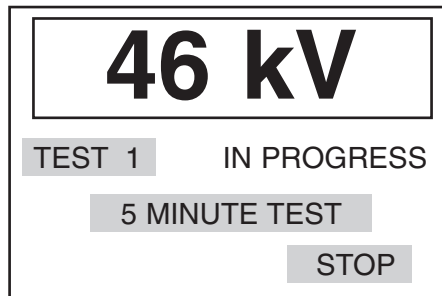

Figure 6 Example Voltage Screen
2. After the initial stand time is complete the high voltage test is switched on and applied to the oil sample. The screen display showing 'TEST 1' appears, similar to that shown in figure 6.
2. After the initial stand time is complete the high voltage is switched on and slowly applied to the oil sample. The screen display appears similar to that shown in figure 6.
2. After the initial stand time is complete the high voltage is switched on and applied to the oil sample. The screen display appears similar to that shown in figure 6. The sub-display shows the voltage applied to the oil sample; this voltage is rising at the rate of 3 kV/s. It continues until breakdown occurs (or up to maximum). The high voltage warning light is illuminated during this time. The number of the test in the sequence is shown and the words 'IN PROGRESS' appear.
2. After the initial stand time is complete the high voltage is switched on and applied to the oil sample. The screen display appears similar to that shown in figure 6. The sub-display shows the voltage applied to the sample oil; this voltage is rising at the rate of 0,5 kV/s. It continues until breakdown occurs (or up to maximum). The high voltage warning light is illuminated during this time. The number of the test in the sequence is shown and the words 'IN PROGRESS' appear.
- The display will now assume the standard format as shown in figure 6. Use of the right hand key reverts the user to the main menu. Upon attaining the upper voltage limit the display will indicate the elapsed time of voltage application until one minute has elapsed or breakdown has occurred.